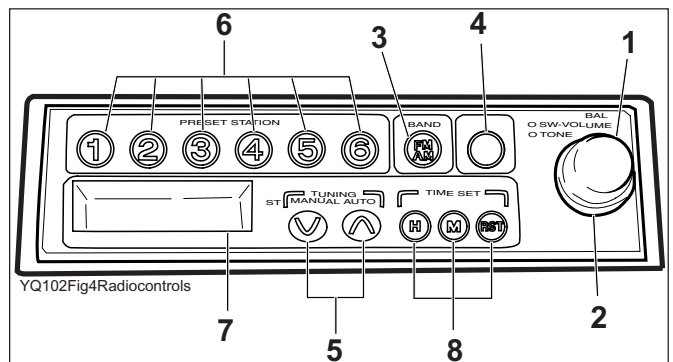

FIGURE 2-17B
2. How to select stations – FIGURE 2.17B